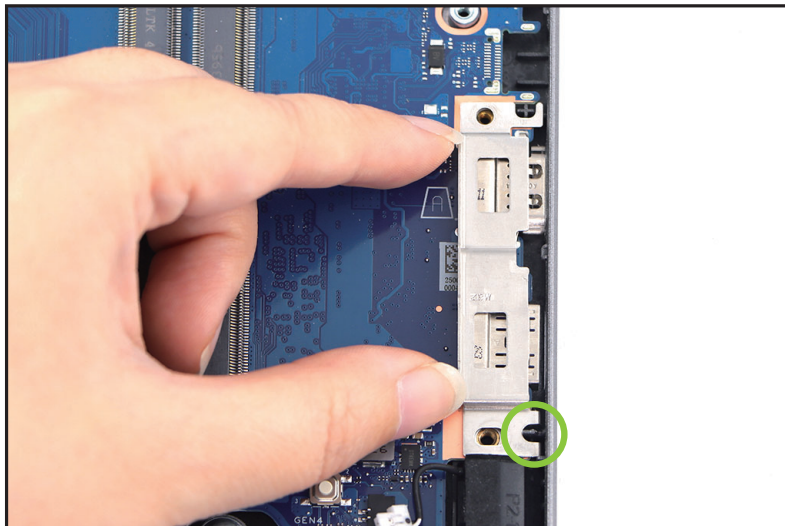

Figure 1-33. Mainboard Removal
11. Release the mainboard bracket from the guide (marked with green circle) on the top assembly and remove it (Figure 1-33).